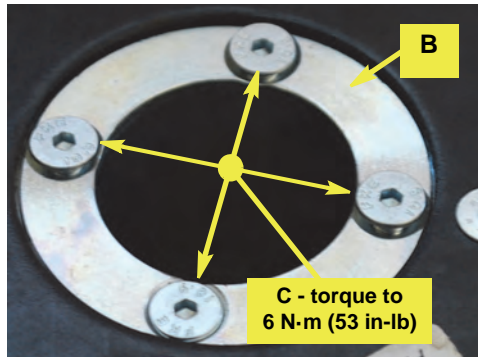

Figure 1b: Shaft adapter installed
- b. Using the four countersunk screws **C**, secure the shaft adapter **B** in the steering wheel. Torque the screws to **6 N·m (53 in-lb)** (Figure 1b).